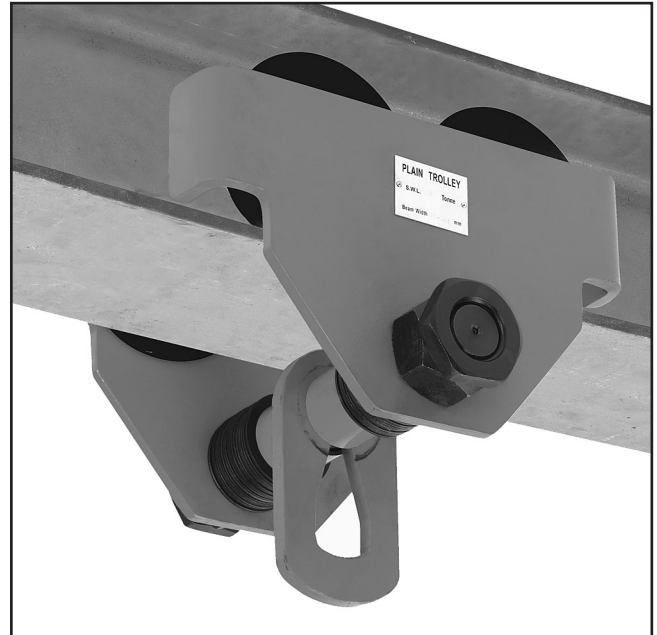

**Figure 3.** Trolley assembly.
2. Assemble the trolley using the components from the inventory, as shown in **Figure 3**, and adjust the space between the trolley wheels to roughly match distance (A), shown in **Figure 2**.